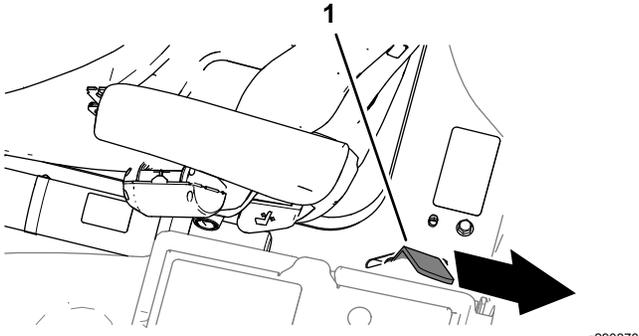

Figure 52
- Fully lower the platform and move the platform-latch handle towards the rear of the machine until the latch hooks fully engage the locking bar (Figure 52).